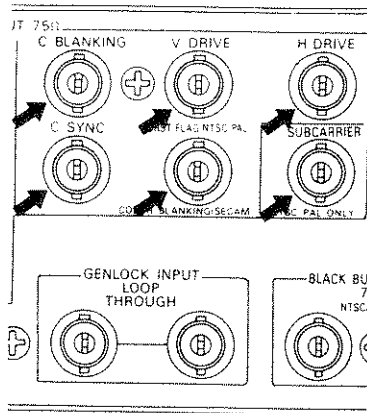

Figure 4.19
4.6.1 Blanking, Sync, VH, HD, Burst Flag, and Subcarrier Signal Output (See Figure 4.19 and Table 4.7)